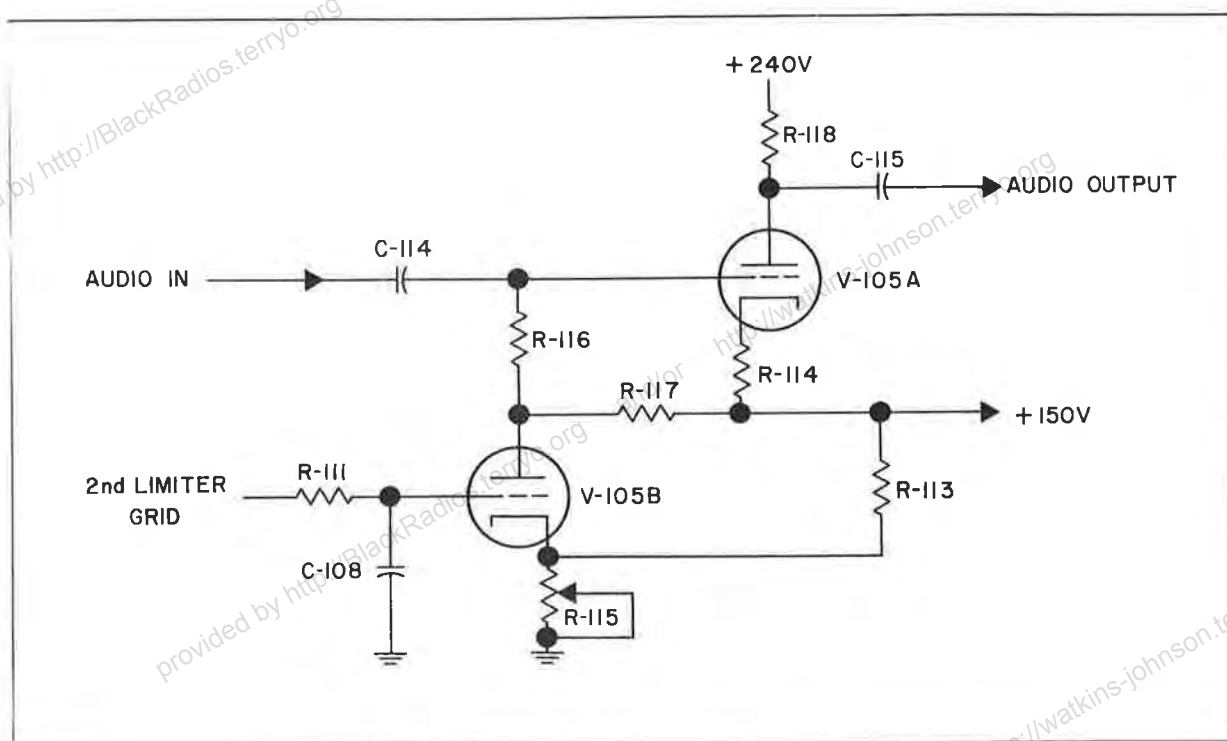

Figure 2-2. Model 1302-B Receiver Squelch Circuit, Simplified Schematic
f. THE SQUELCH CIRCUIT. - The squelch circuit is best described with the aid of the simplified schematic of Figure 2-2. V105A acts as a gated audio amplifier stage, while V105B serves as a dc amplifier and gate generator. The circuit is connected in such a manner that V105B has zero grid voltage when no signal is being received and has a negative signal applied when a carrier is being received. The audio amplifier stage, V105A, will pass an audio signal when the dc amplifier, V105B, is nonconducting, and will not pass an audio signal when V105B, is in a conducting condition. In this manner the audio circuit is disabled when no carrier is being received. The carrier strength necessary to make the audio section operative is adjusted by the threshold (squelch) control R115. The operation of this circuit is detailed in the following paragraph.